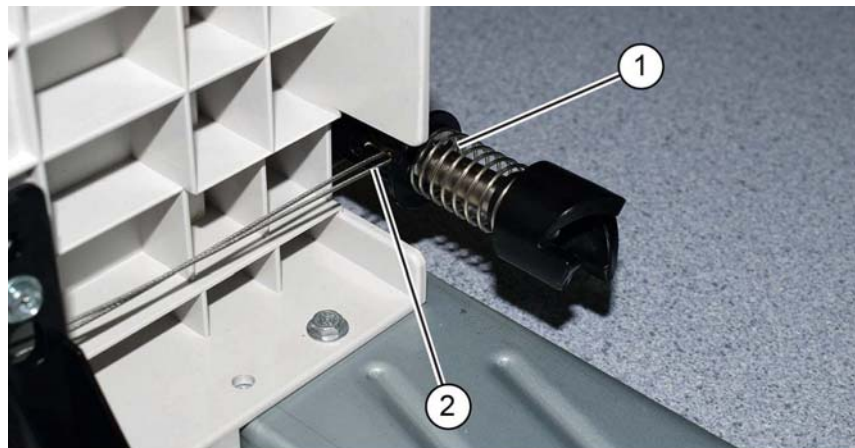

Figure 2 Rear cables
5. Release the rear lift cables, Figure 2:
- a. Pull the spring away from the pulley, then remove the E-clip (1).
- b. Release the rear lift cables (2).